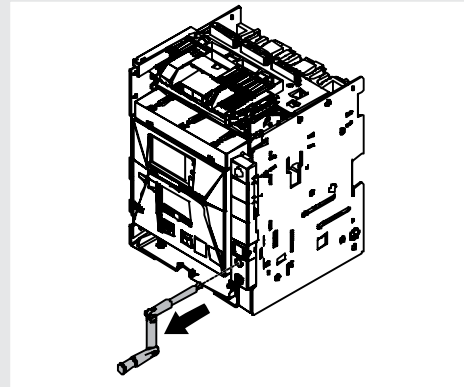

Figure 47
8. Extract the crank. See Figure 47.